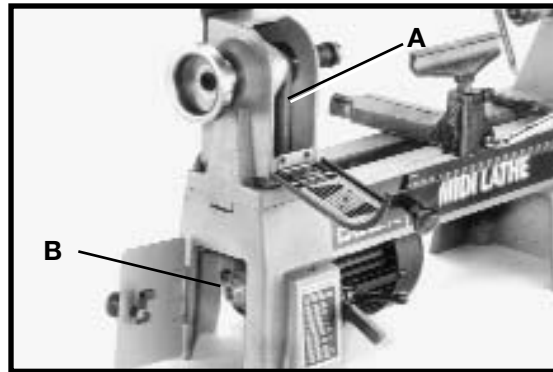

Fig. 31
IMPORTANT: Be careful not to drop the metal key (M) Fig. 31 into the hub of the spindle pulley (H).